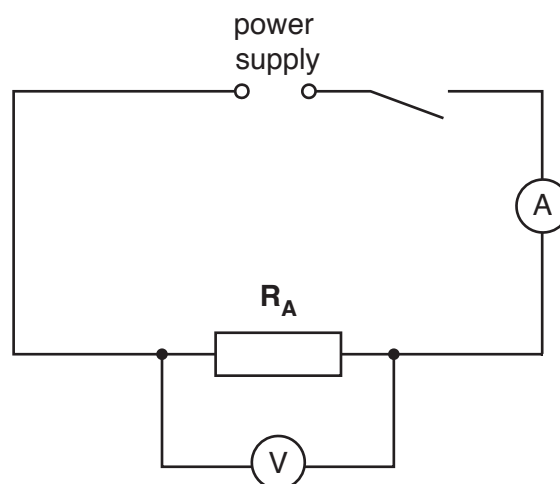

Fig. 2.1
- (vi) Sufficient connecting leads to construct the circuit shown in Fig. 2.1, with two additional leads.
1. The circuit is to be connected by the Supervisor as shown in Fig. 2.1.
Set up the circuit so that it is arranged as shown in Fig. 2.1.